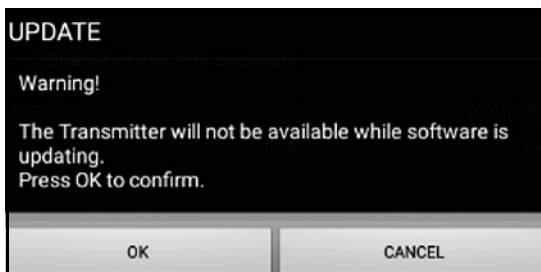

Figure 122: Update Confirmation Screen
5. At the screen shown in *Figure 122* below, click the **OK** button to confirm the update and continue.